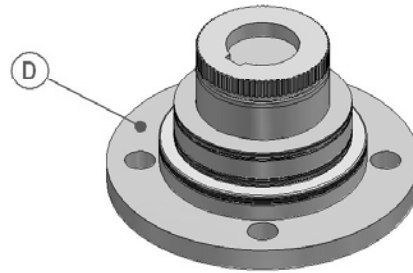

Fig 8. Valve Stem Assembled
- 2) It is recommended that flanges be sealed on assembly with silicon sealant. The face marked 'D' on Fig 8 shows where sealant can be applied